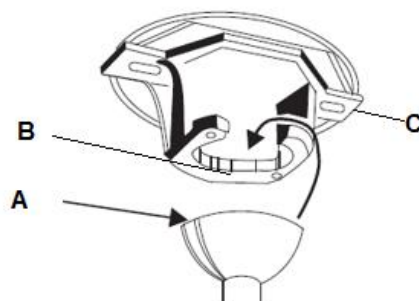

Fig. 5
Lift the fan assembly onto the mounting bracket. Ensure the registration slot (A) of the hanger ball is positioned on the stopper (B) of the mounting bracket (C) to prevent the fan from rotating when in operation. (Fig.5)